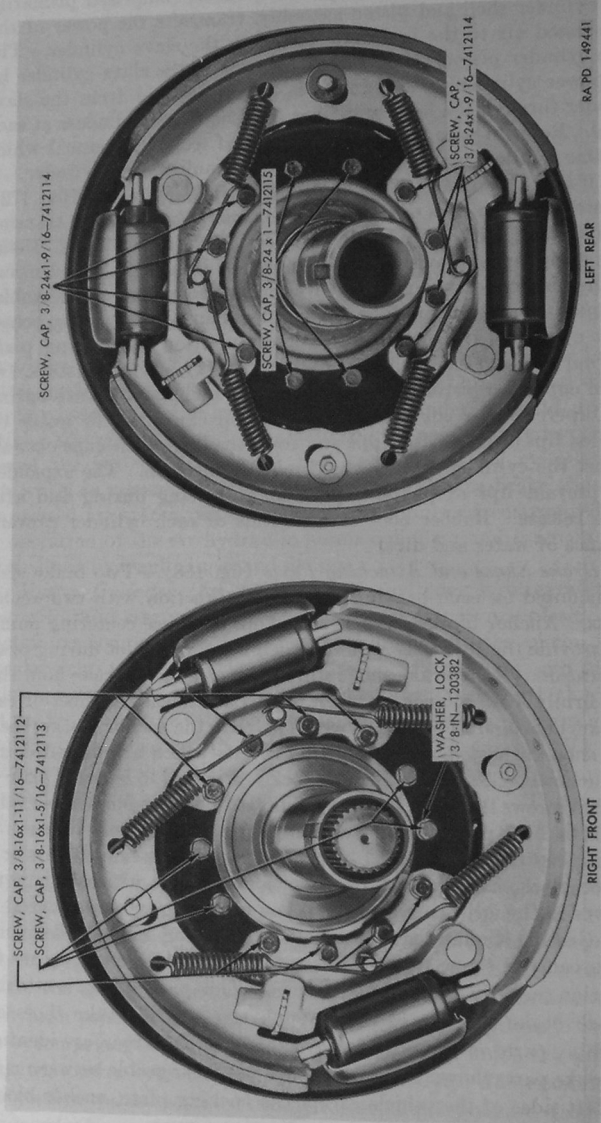
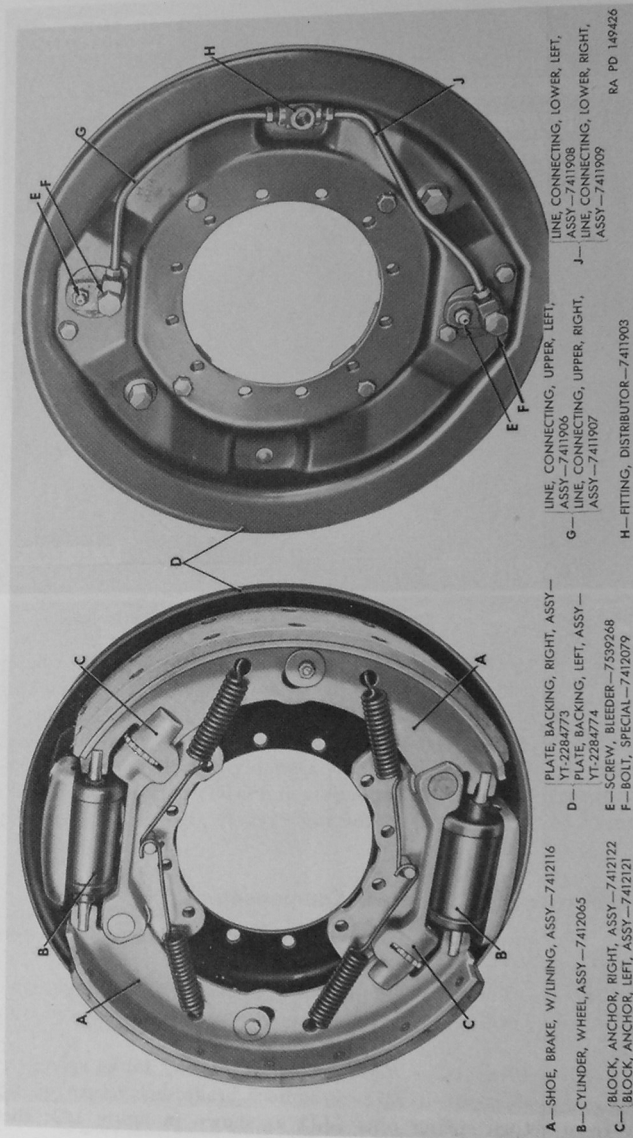

Figure 158. Front and rear brake assemblies installed on axles.
Figure 161. Brake assembly removed from axle.
*e. Brake Shoes and Attaching Parts* (fig. 158).—Two brake shoes are mounted on each backing plate in conjunction with two anchor blocks. Anchor blocks serve as shoe stops and shoe centering points, and provide the fulcrums around which the shoes pivot during brake application. Four brake shoe return springs at each brake hold shoe ends firmly against anchors when brakes are released. Heel of each shoe anchors against steel pins which pivot in the anchor blocks; toe of each shoe anchors against adjusting screws which are threaded into the anchor blocks. Each anchor block is attached to backing plate by two cap screws threaded into tapped holes in anchor block from inner side of backing plate. Each adjusting screw has two grooves running lengthwise its entire length. Adjusting wheel, assembled in slot in anchor block, has two lugs on its inside diameter which engage the grooves in the adjusting screw. When adjusting wheel is turned by the adjusting stud and gear, it turns the adjusting screw in the anchor block, causing screw to move in or out of block, depending on the direction the adjusting wheel is turned. One-piece lining is attached to each brake shoe by 14 countersunk rivets. All brake shoes and attaching parts on one side of the vehicle, front and rear, are identical. All brake parts shown in figure 163 are interchangeable between right and left sides of the vehicle except the backing plate, anchor blocks, connecting lines, heat shields, and adjusting screws.
*d. Remove Brake Assembly*.—Remove 12 cap screws and lock washers (fig. 158) attaching brake assembly to steering knuckle support (front), or remove 12 cap screws and safety nuts attaching brake assembly to flange on axle housing (rear). Lift brake assembly (fig. 161) off axle.
- (1) Adjusting screws and anchor blocks used on right side of vehicle have right-hand threads and left-hand threads on left side of vehicle; parts must be assembled and installed accordingly.
- (2) Thread adjusting screw (HH) into anchor block (CC). As end of adjusting screw approaches slot in anchor block, position adjusting wheel (AA) in slot and engage lugs on inside of adjusting wheel in grooves in adjusting screw. Thread adjusting screw in until two threads on screw are exposed at threaded end of anchor block, or until plain end of adjusting screw is below unthreaded end of anchor block to a depth of approximately 1 inch.
- (3) Position assembled anchor blocks on backing plate in positions shown in figure 161, and attach each anchor block to backing plate with two  $\frac{3}{8}$ -24 x  $\frac{5}{8}$  cap screws (J) and  $\frac{3}{8}$ -inch external-teeth lock washers (K). Tighten cap screws firmly.
*d. Install Wheel Cylinders and Heat Shields.*—Position heat shield (Z) over mounting base on each wheel cylinder assembly (Y) and position wheel cylinders on backing plate. Both wheel cylinders must be positioned with long end toward adjusting screw in anchor block, and right or left heat shields must be used, depending upon which side of vehicle brake assembly is to be used. Attach each wheel cylinder to backing plate with two  $\frac{5}{16}$ -18 x  $\frac{5}{8}$  cap screws (G) and  $\frac{5}{16}$ -inch lock washers (H). Tighten cap screws firmly. Install bleeder screw (F) in upper opening in each wheel cylinder.